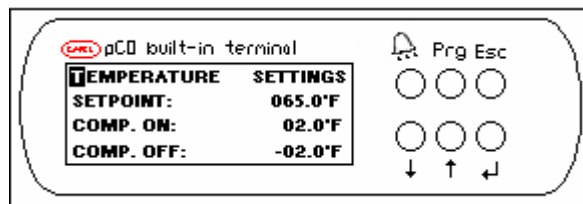

FIGURE 2
1. In the setpoints menu, select **TEMP SETPOINTS** and press **ENTER** (↵). This will take you into that menu and the cursor should be blinking over the letter “T” on the words **TEMPERATURE SETTINGS**. See figure 2.